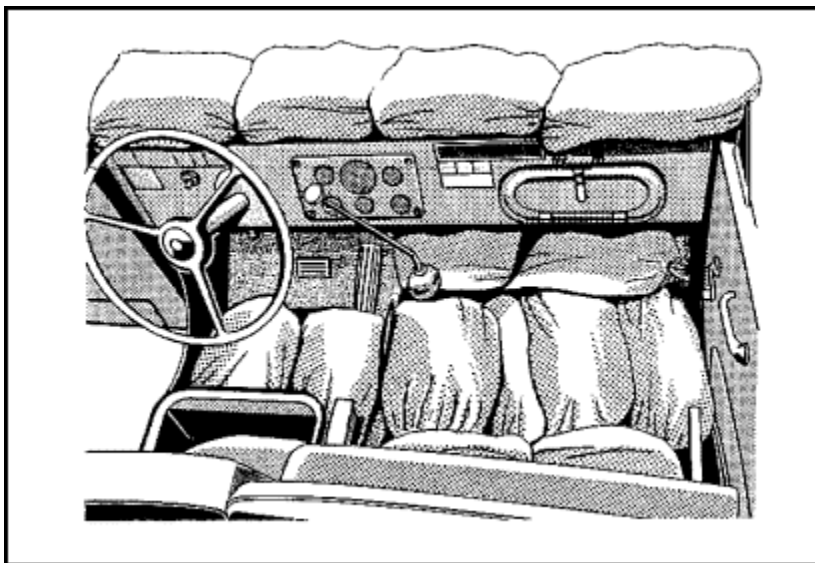

Figure O-1. Proper placement of sandbags in the cab
a. **Cab.** Experience shows that using sandbags to harden vehicle cabs for protection against mine blasts saves lives (Figure O-1). Normally, the cabs of all vehicles subject to detonating mines are hardened. Certain cautions, however, must always be observed. Sandbags should be placed so that they--